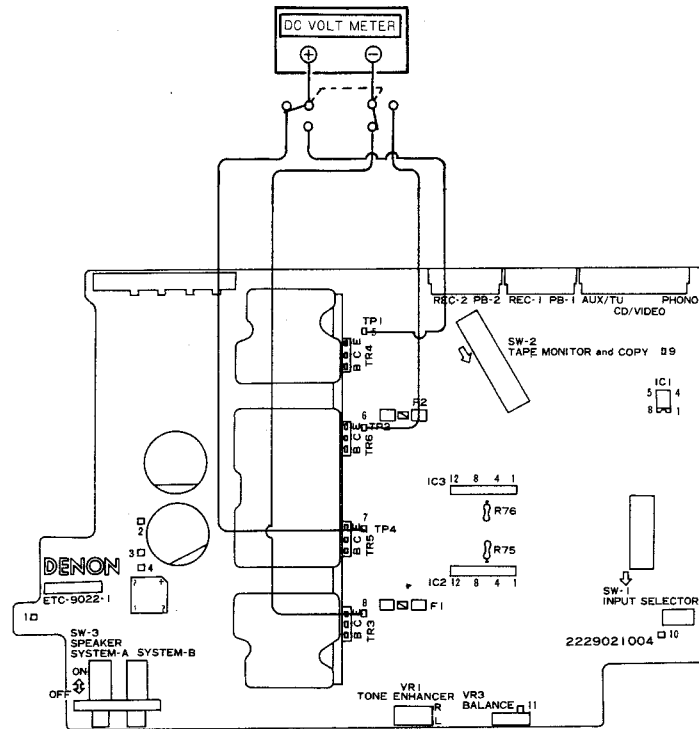

Fig. 4
**IDLE CURRENT ADJUSTMENT (Fig. 4)**
4. (1) Connect the power source cord to an AC outlet and turn on the power switch; read the measured value after 3 minutes or when the measured value is within a tolerance 2 mV ~ 20 mV (DC), adjust the idling current manually as follows.